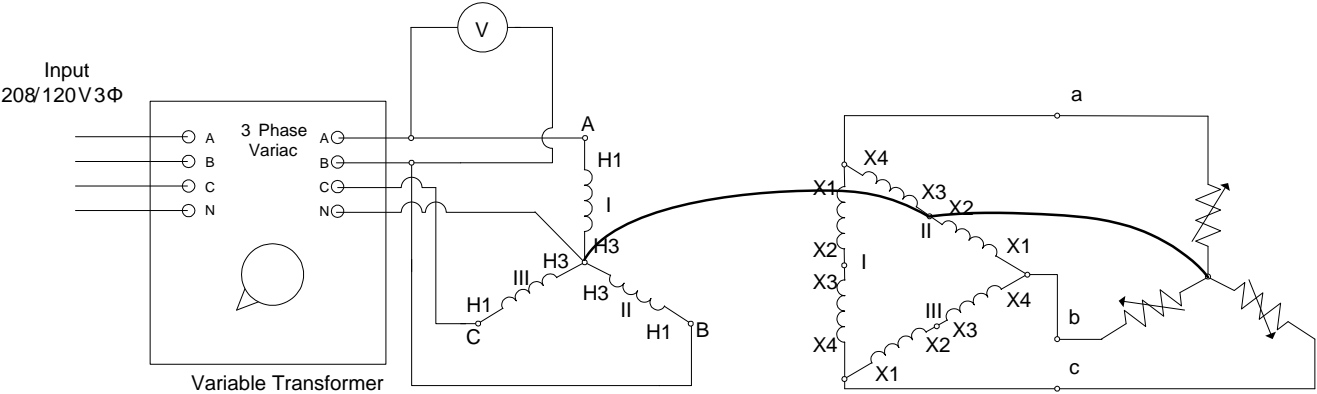

Figure 4- Wild Leg Delta Connection
7. Add the neutral connection to your circuit as seen in Figure 4. **Have the Instructor check your circuit.**